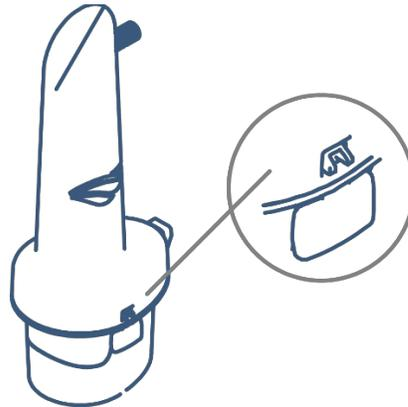

Figure 11 – Mist Stack Latches
- Ensure the latches engage on both sides (Figure 11).